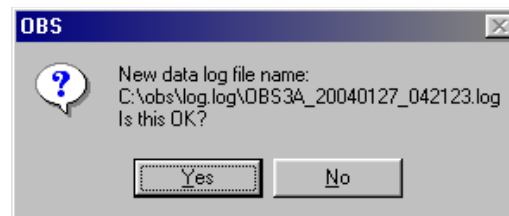

FIGURE 3.2-1. New Data Log Prompt
2. The **OBS-3A Utility** will create a new data log file and prompt you to accept the name (see FIGURE 3.2-1). Files are automatically named with Greenwich Date and Time as follows: